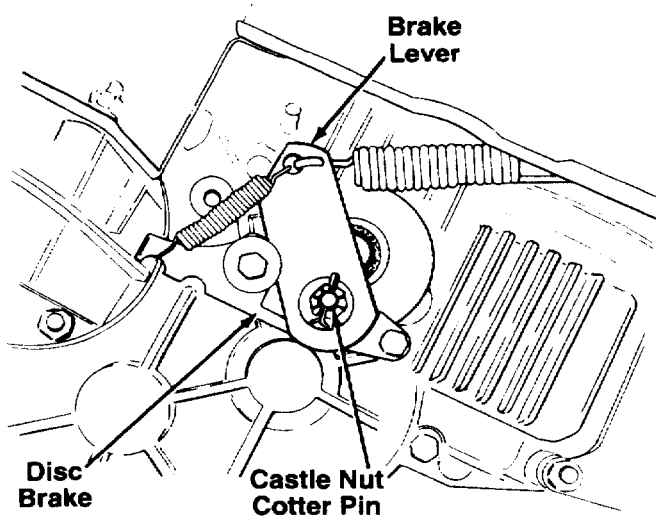

FIGURE 16.
### BRAKE ADJUSTMENT (See figure 16)
**NOTE:** Figure 16 is shown with the unit tipped up on rear wheels for clarity only.